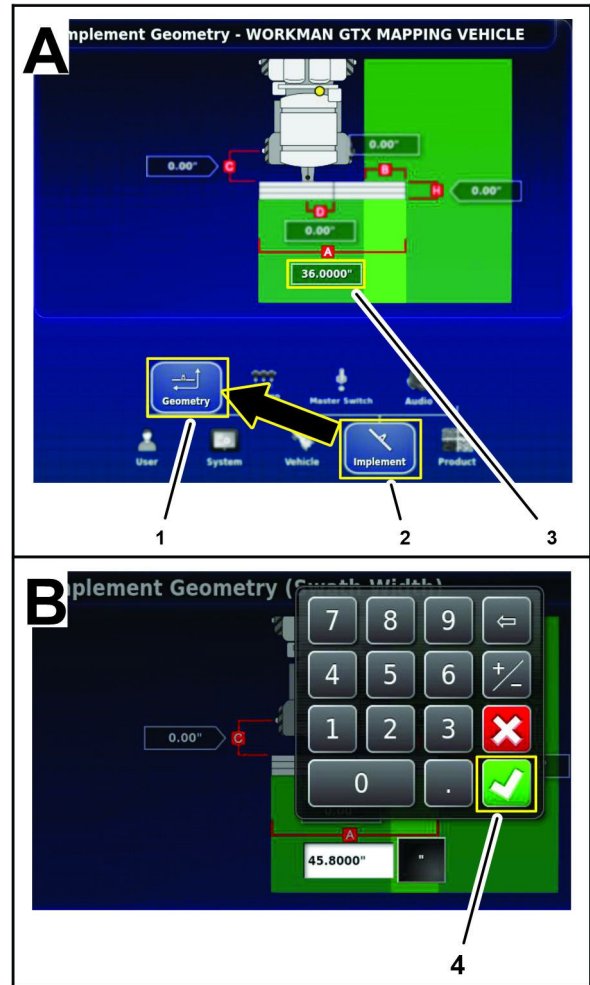

Figure 195
1. Press the IMPLEMENT icon and the GEOMETRY icon (Figure 195).
2. Press the overall width icon (A), use the on-screen keypad to enter the measurement that you recorded in the implement-geometry form of Measuring Implement Geometry (page 83), and press the confirm icon (Figure 195).